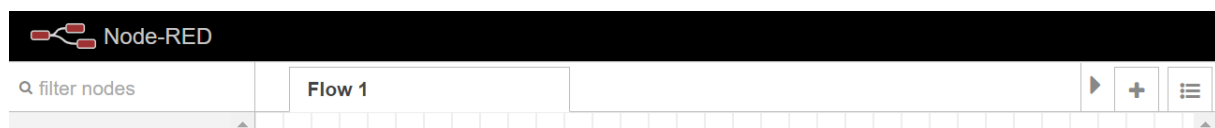

Figure 1. Flow tabs in Node-RED
- Assuming that we start with a clean NodeRED instance, we should have a single flow with the default title “Flow 1”, as shown in Figure 1.